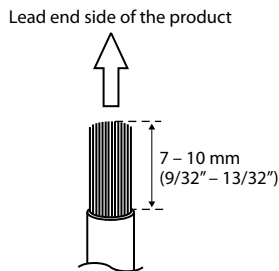

Fig. 7
- Remove the insulation from the ends of the wire leads by about 7 – 10 mm (9/32" – 13/32"). (Fig. 7)